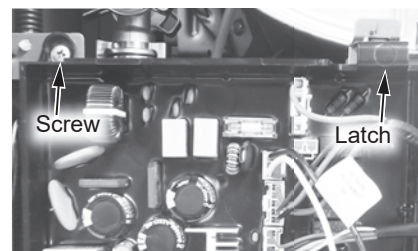

Figure 245 - Control board location
- 9 Locate the two (2) screws at the bottom of the cabinet cover. Use a Phillips screwdriver to remove the screws. Place screws aside in a safe place for reinstallation.
- 11 Locate the screw securing the control board panel as shown in Figure 245. Use a Phillips screwdriver to remove the screw and place it aside in a safe place for reinstallation.